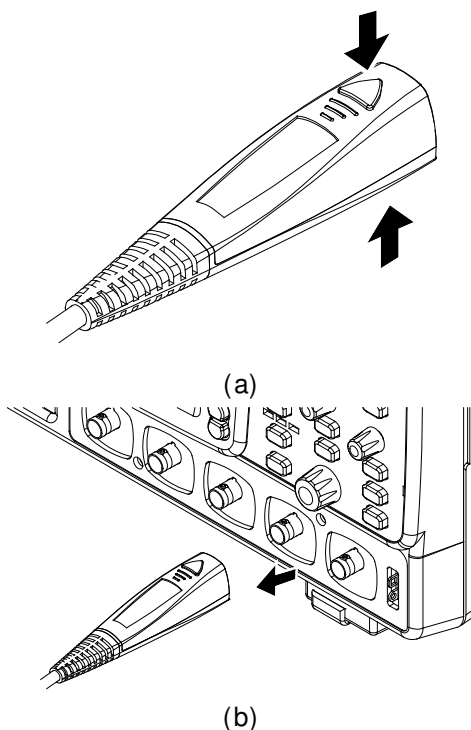

Figure 4 To Disconnect the Oscilloscope
3. To disconnect the probe from the oscilloscope, push the small buttons on the top and bottom of the probe connector, and then pull the probe connector out from the BNC connector of the oscilloscope in the arrow direction as shown in the Figure 4 (b).